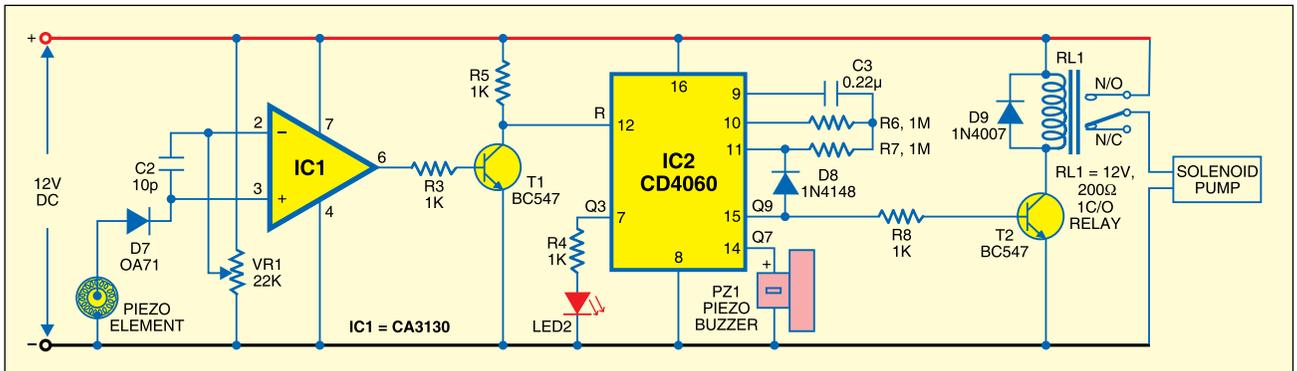

Fig. 1: Pyroelectric fire sensor
**Sensor side circuit.** Fig. 1 shows the fire sensor circuit. The front end of the circuit has a sensitive signal amplifier built around IC1 (CA3130). It gives a high output when temperature near the piezo element increases. IC CA3130 is a CMOS operational amplifier with